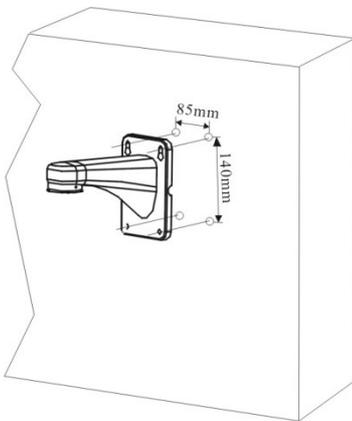

Fig.1
1. Use bracket to marke the mounting position on wall (fig.1)